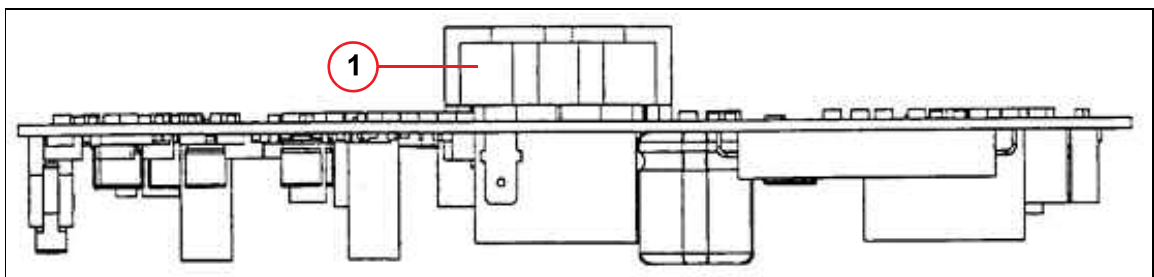

Fig. 9: D115 rotating anode starter, cross sectional view
- Apply a paper-thin layer of heat-conducting paste on the IGBT module (1/Fig. 9 / p. 18).